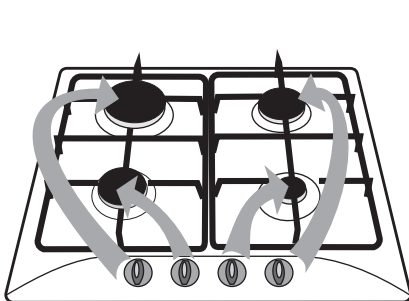

Fig. 15
- Corresponding burners and control knobs are shown in Fig. 15.